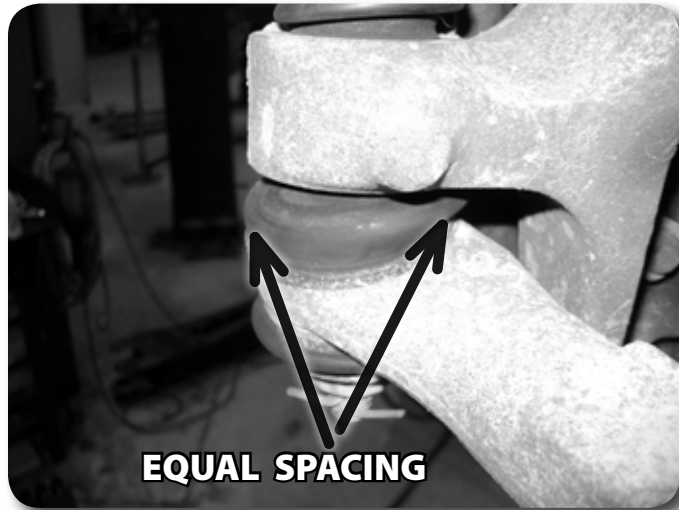

Figure 4
6. Remove the factory adjusting collar bolt and replace with new 3/8" bolt. Run the bolt from front to rear. Adjust tie rod ends joints so they are centered. This will put the outer tie rod end brackets parallel with the center bracket. Tighten to 35 ft-lbs. Figure 4